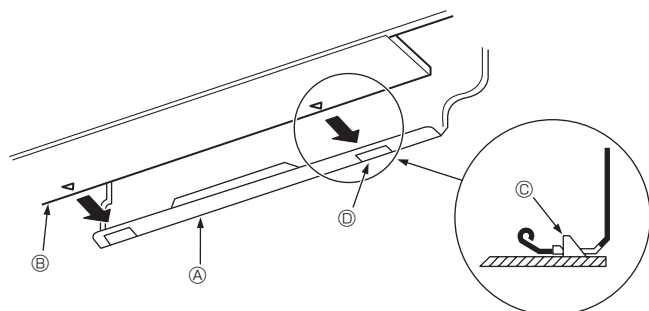

Fig. 3-11
3. While inserting the refrigerant piping and drain hose into the wall penetration hole (penetration sleeve), hang the top of the indoor unit to the mount board ①.
5. Fasten by pushing the bottom part of the indoor unit onto the mount board ①. (Fig. 3-11)
* Check that the knobs on the bottom of the indoor unit are securely hooked into the mount board ①.
① Mount board
② Indoor unit
③ Hook
④ Square hole